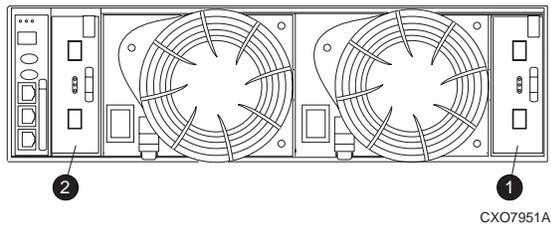

Figure 51 I/O module element numbering
- *en.* is the two-character I/O module element number (see Figure 51)